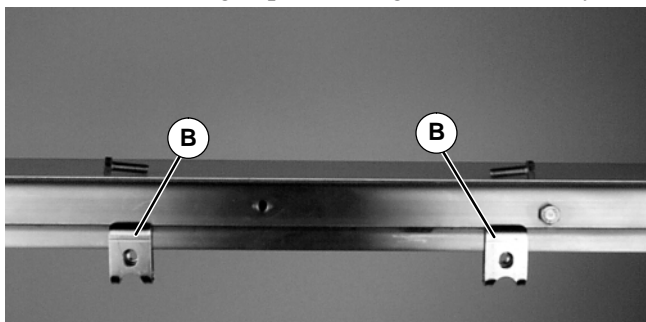

Figure 3
1. Install mounting clips (B of Figure 3) on conveyor.